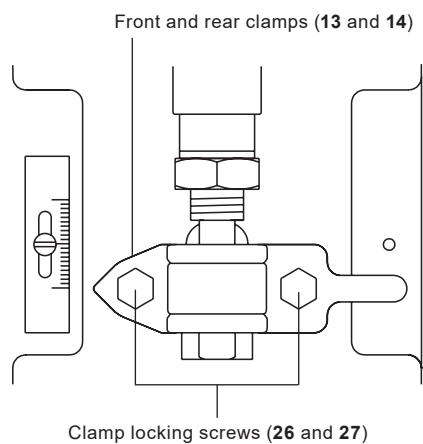

Fig. 8
- Loosen and remove the clamp nuts and screws (**26** and **27**, see Figure 8) and remove the valve adaptor (**11**).